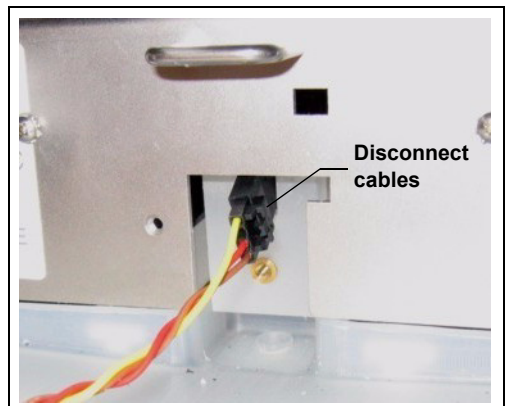

Figure 9-22. Leak Sensor Cable
6. The cable attached to the leak sensor connects to a cable inside the DC. Continue pulling the cable until the connectors for the two cables are outside the panel (see Figure 9-22).